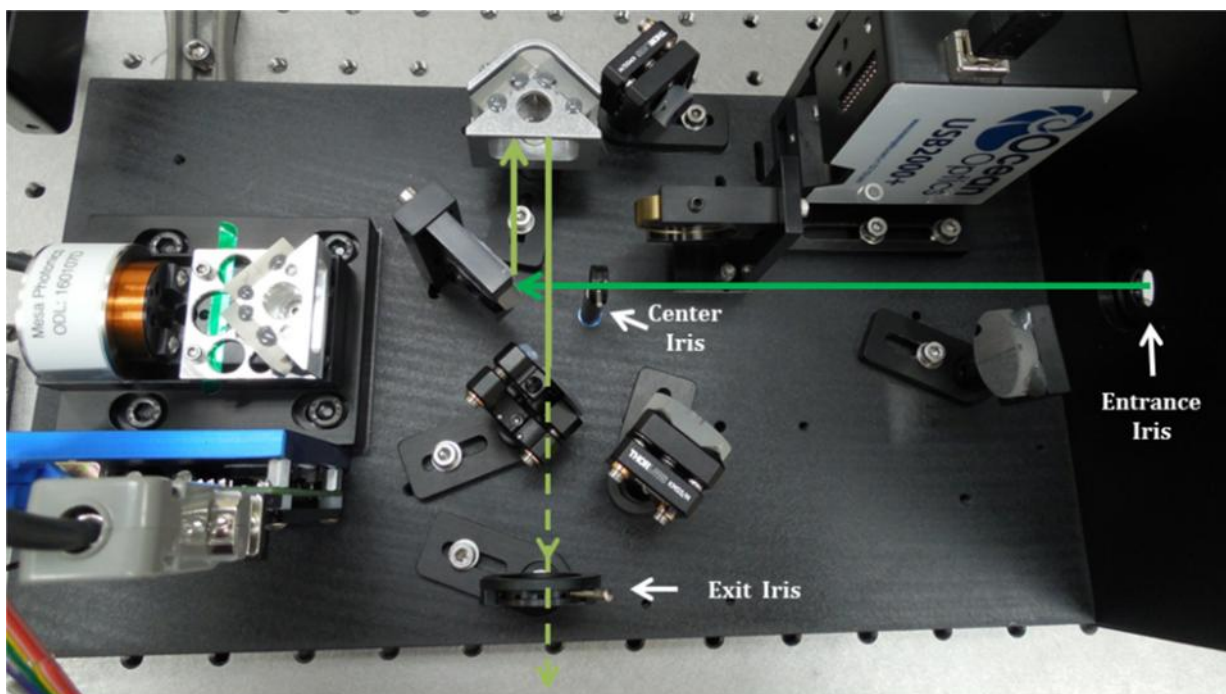

Figure 20: Aligning a LASER beam through the Entrance Iris, the Center Iris and the Exit Iris in a FROGscan Standard without cameras.
4. Move FROGscan around on the optical table until the LASER beam is approximately aligned through the Entrance Iris, the Center Iris and the Exit Iris (Figure 20).